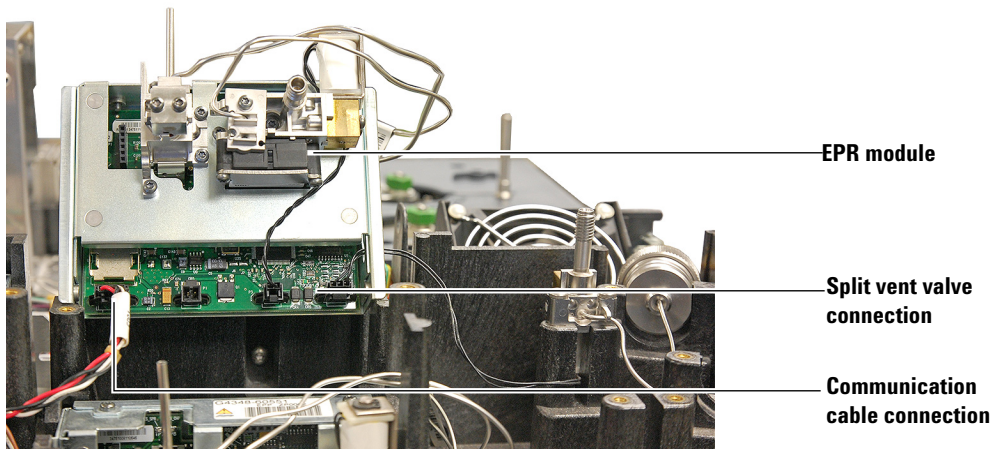

Figure 10 Communication cable and split vent valve wire connections on EPR module
- 2 Locate the communications cable in the inlet module EPR bays area, and plug it into the connector located on the EPR module's PC board. See Figure 10.